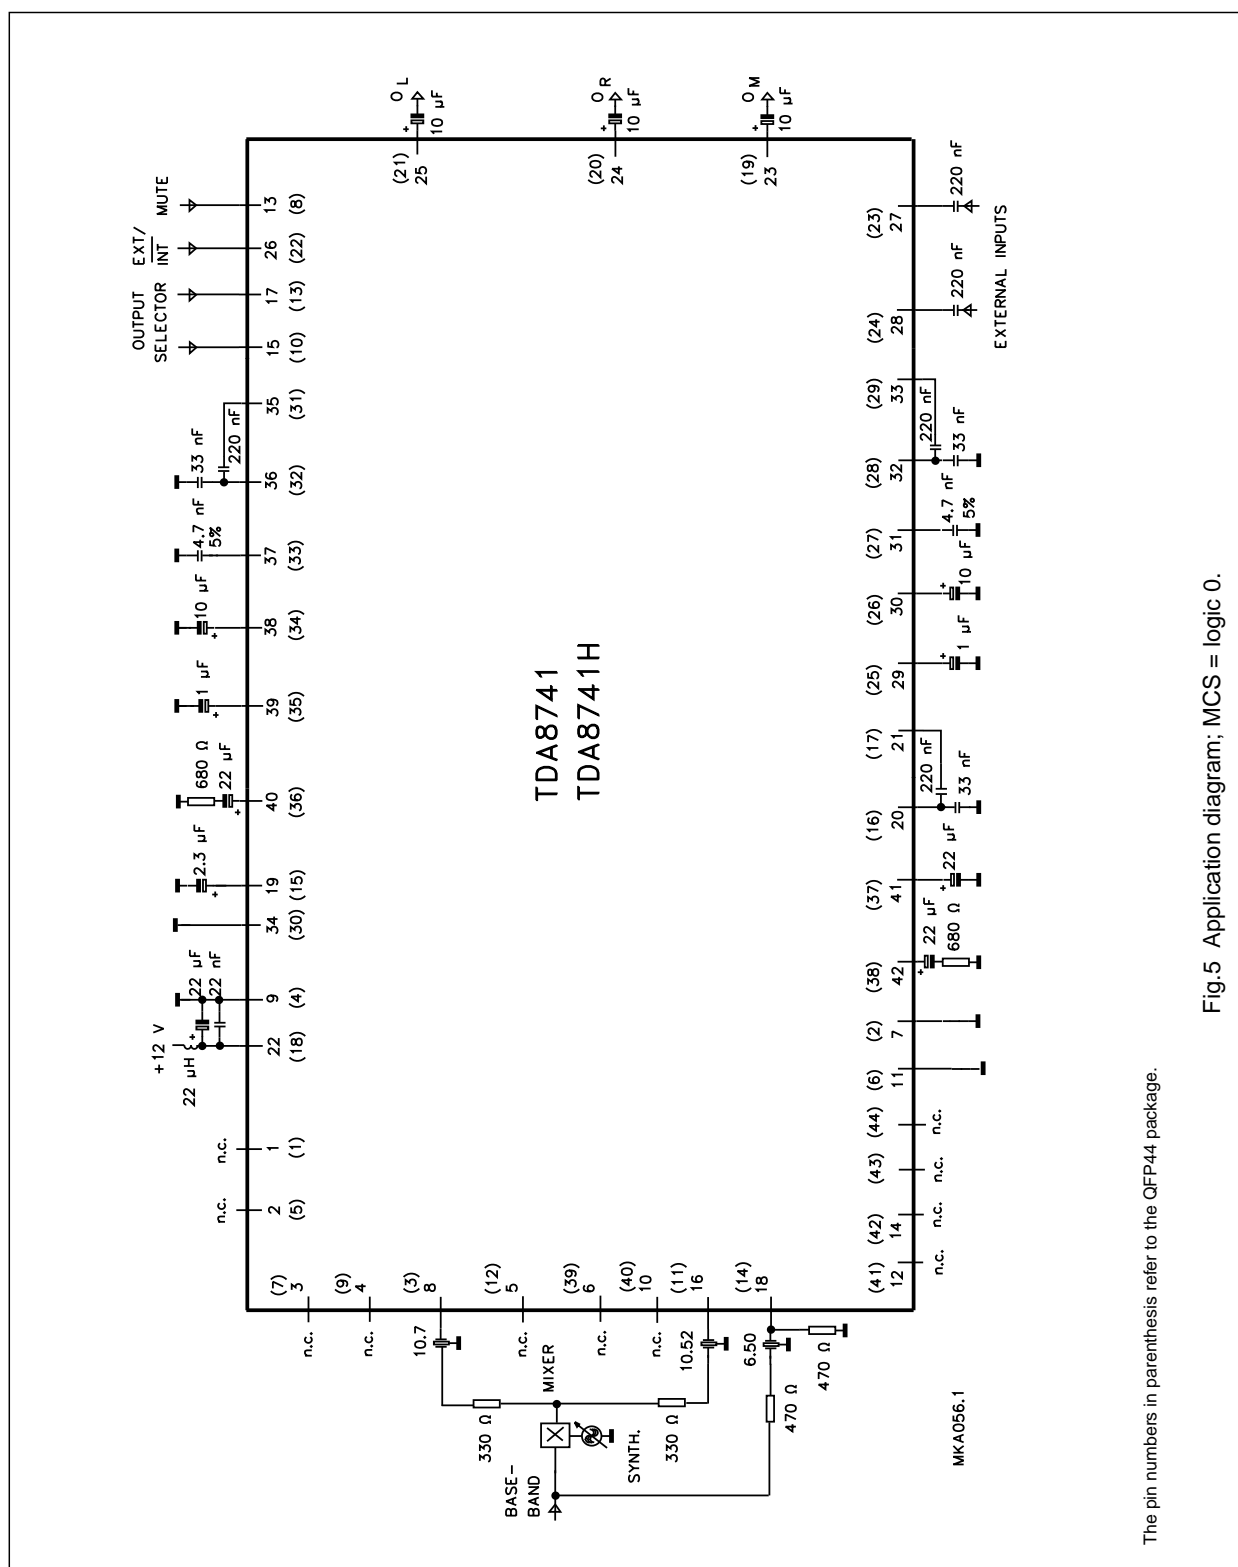

Fig.5 Application diagram; MCS = logic 0.
**MCS pin 7 (2) = logic 0;** (see Fig.5)